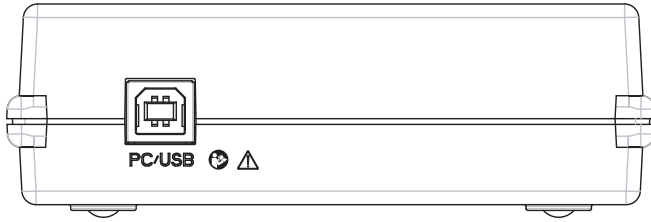

Fig. 1
- Connect the USB connector on the rear of HI-PRO 2 to a USB port of a personal computer (PC) by means of the supplied USB cable. See Fig. 1.